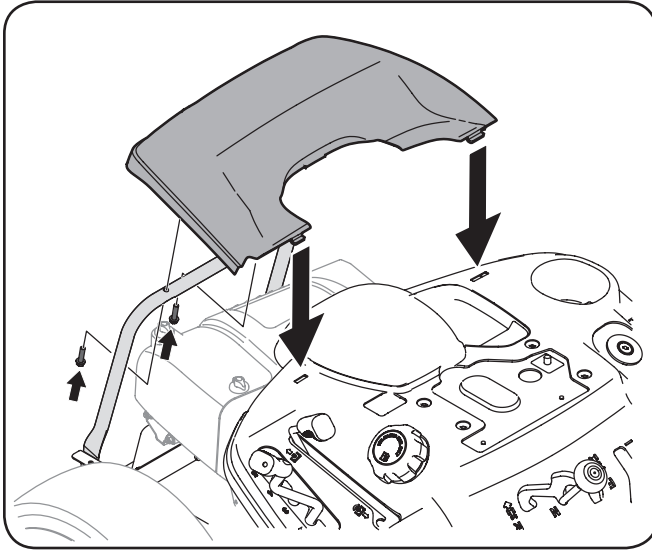

Figure 3-10
1. Remove the two factory installed hex screws located on the rear engine cover. Retain the screws for later instructions. See Figure 3-10.
2. Install the rear engine cover by positioning it in place as shown in Figure 3-10. Tip the engine cover forward to fit it into the slots provided, then rotate it backwards to align the mounting holes.